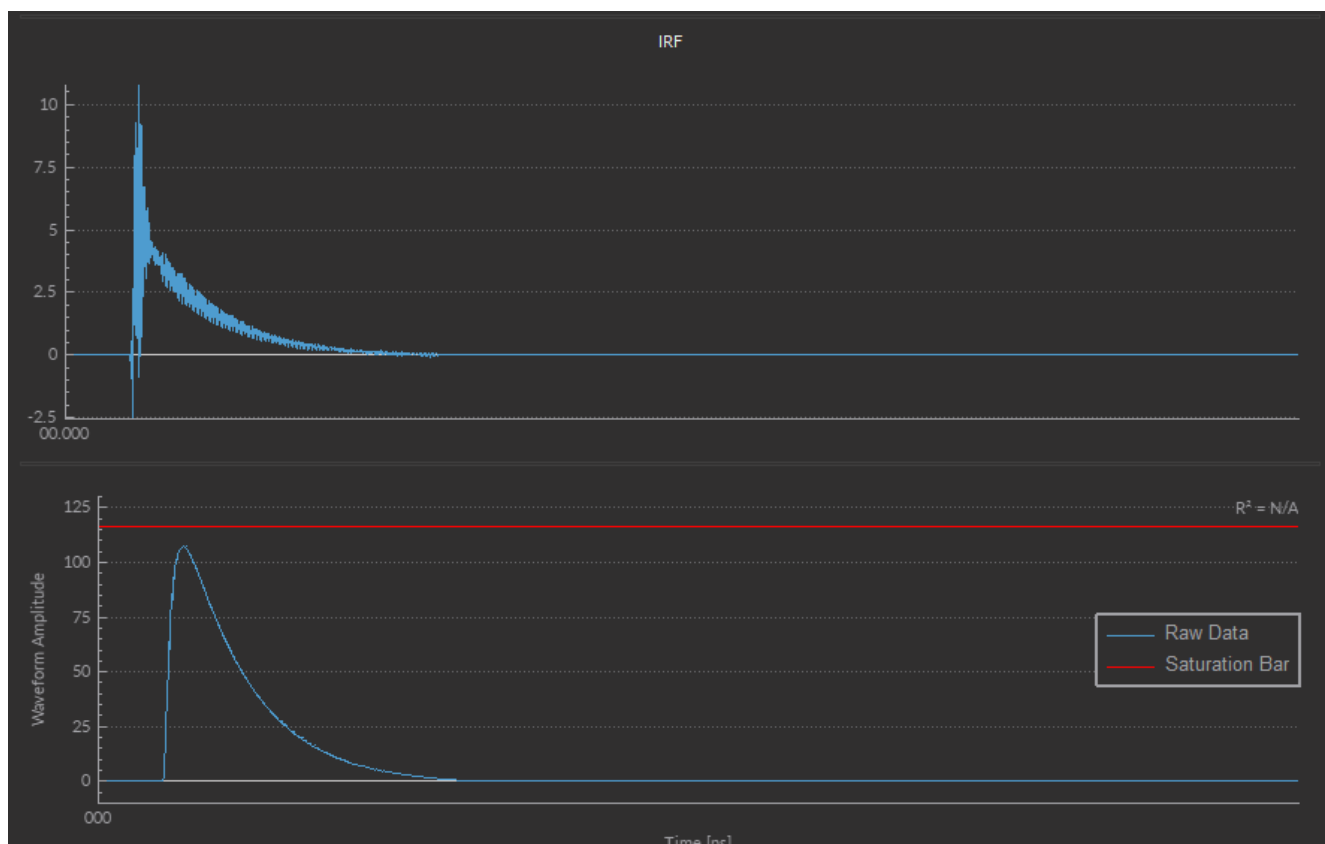

Figure 12.26: The IRF appears in the upper graph. The waveform signal is shown in the lower graph.
3. The **Graphs** (Fig. 12.26) displays the results from the calibration. The top graph shows the acquired IRF, while the bottom graph displays the signal on which the IRF calculation is based. It is used to check whether the signal has too small or too large amplitude or an unexpected form.